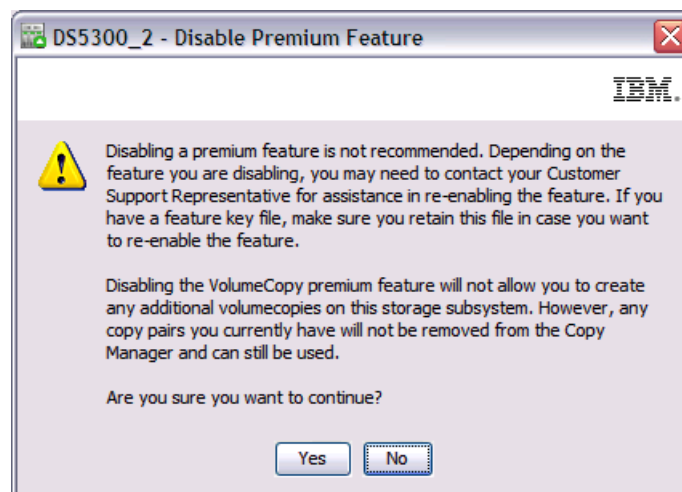

Figure 5-39 Disable premium feature - Confirm
2. Click **Yes** to confirm feature disabling as shown in Figure 5-39.